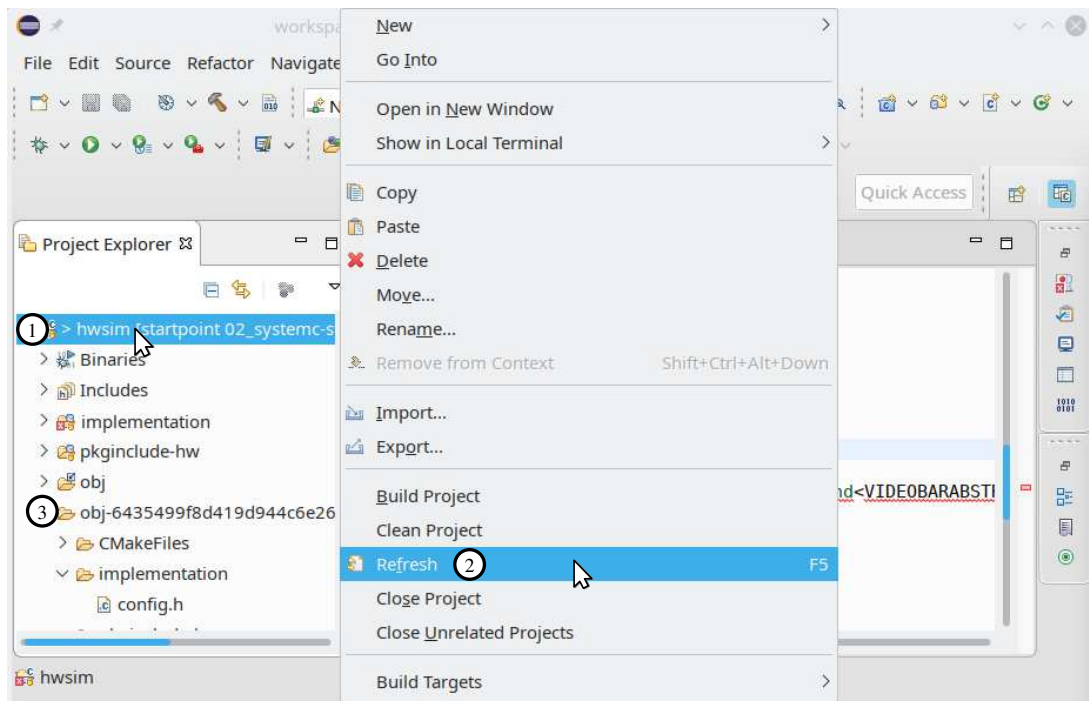
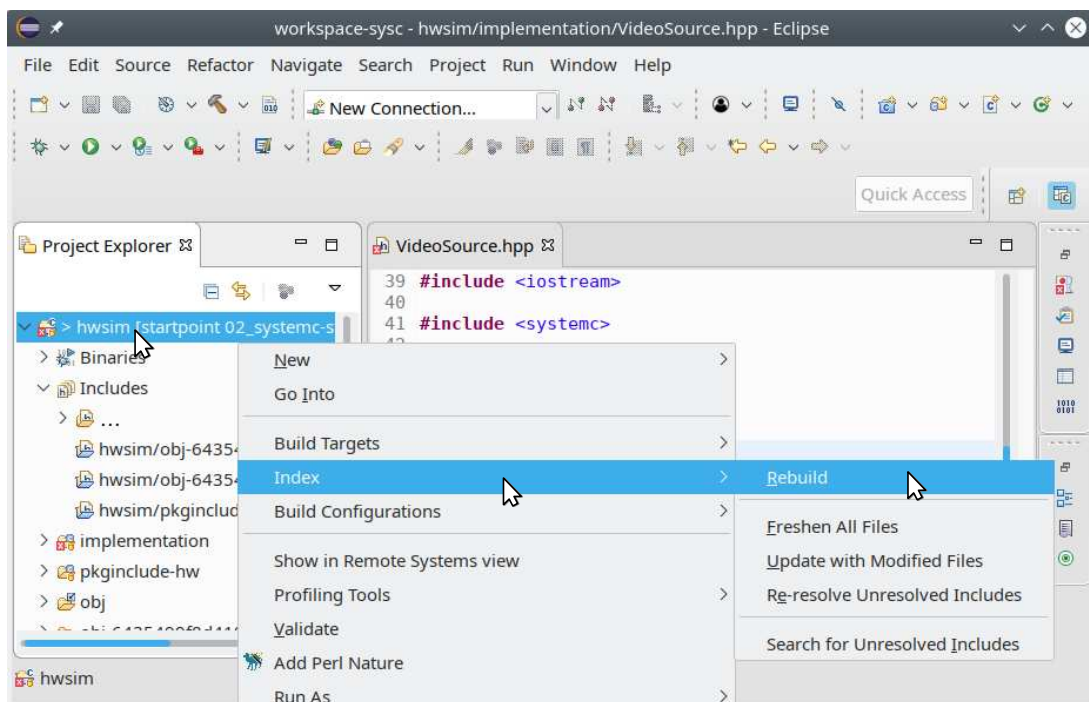

Figure 9: Refresh the hwsim project to pick up new files in the project directory
Figure 10: Rebuild the index for the hwsim project
② in Figure 9. After having refreshed the project (you could also have selected the project and pressed F5), the directory should be visible in Eclipse, e.g., as shown in Figure 9 with ③. Finally, rebuild the index as shown in Figure 10 to take into account the effect of the *config.h* header.